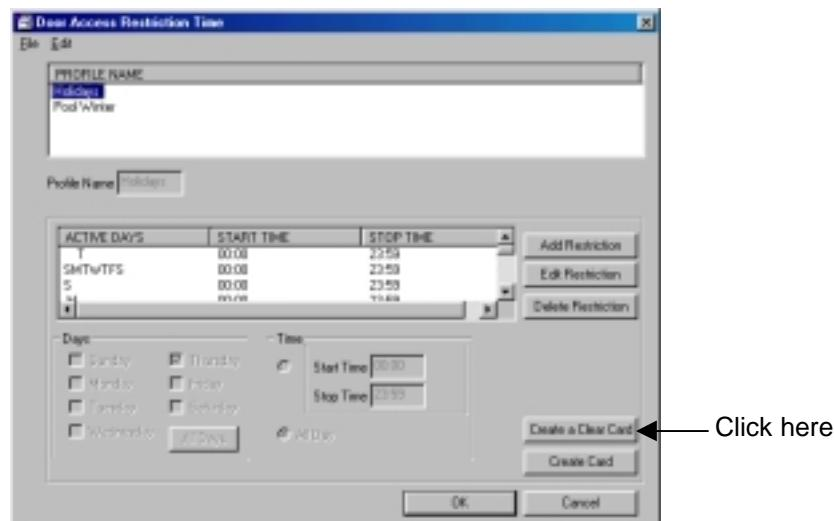

Figure 11.57 Creating a Reader Restriction Time Clear Card
2. In the Door Access Restriction Time Window click the Create Clear Card button (Figure 11.57).